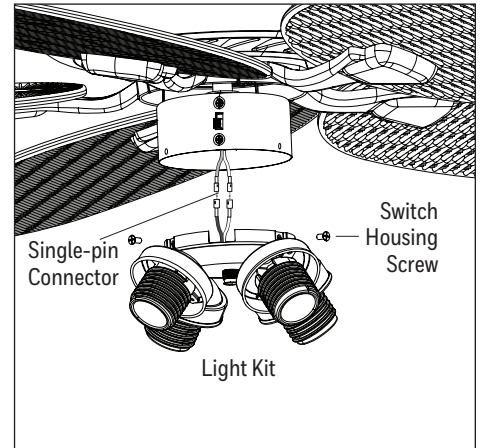

Figure 5.6
- Remove the three switch housing screws from the top edge of the light kit. Then, connect the single-pin connectors from the fan to the light kit -- blue to black and white to white. Ensure the connectors are secure. Then attach the light kit to the switch housing using the switch housing screws (Figure 5.6). **Note:** Align the notch in the switch housing cap with the reverse switch.